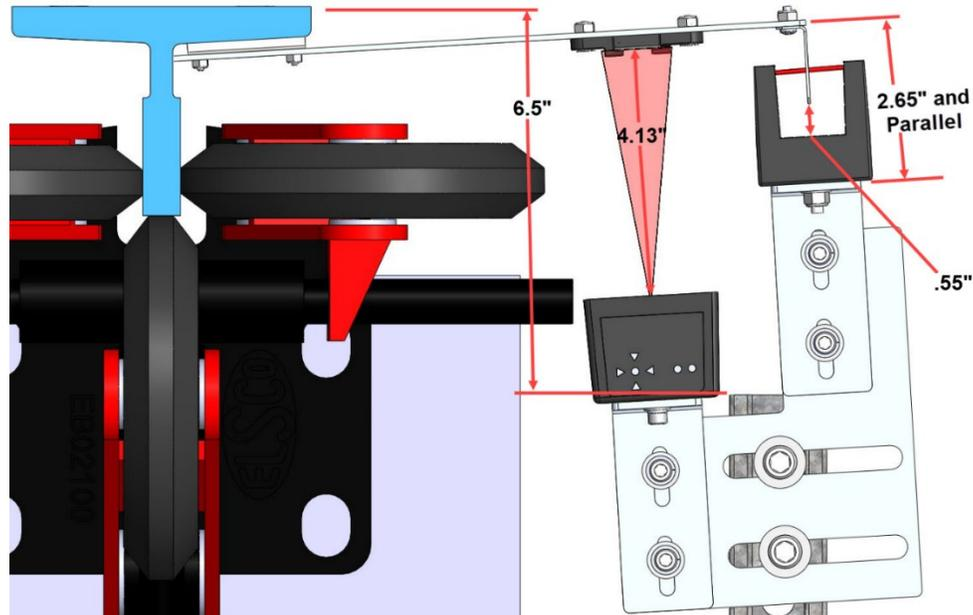

Figure 6: Sensor Array Assembly Positioning
5. Set the end of the 24" length Unistrut at 6.5" from the rear surface of the guide rail. See Figure 6.
6. Loosely bolt the Sensor Array Assembly onto the 24" length of Unistrut with the Door Zone Blade centered horizontally in the GLS Reader and parallel to the Tape Clip Assembly. See Figure 6.